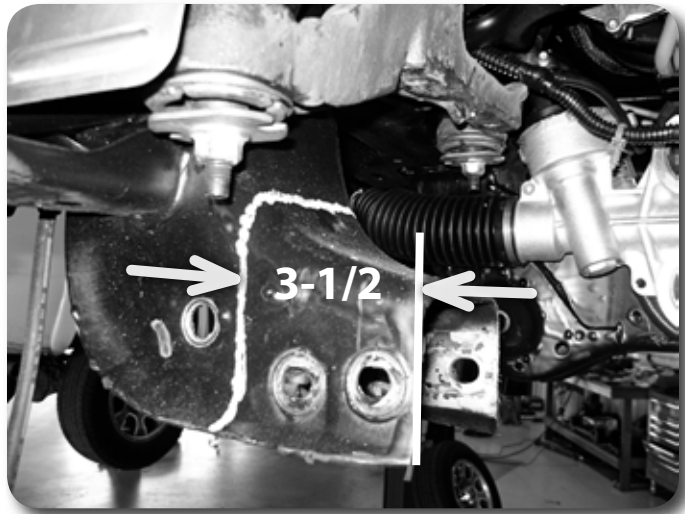

Figure 14 - Shown with differential removed for clarity
23. Measure from the inside of the driver's side control arm pocket out 3-1/2" and mark. Repeat this measurement on the opposite side of the pocket. Make vertical cut lines at the 3-1/2" mark up both front and back faces of the pocket Figure 14.